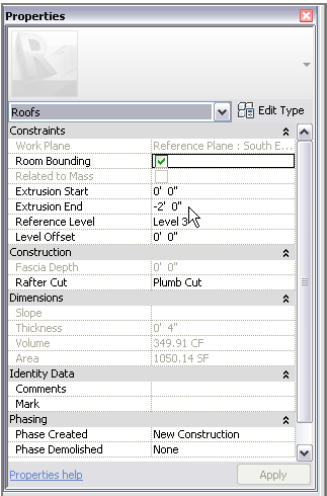

FIGURE 7.54: Setting Extrusion End
- 3. In the Properties dialog box, set Extrusion End to -2'-0" (-600mm), as shown in Figure 7.54.